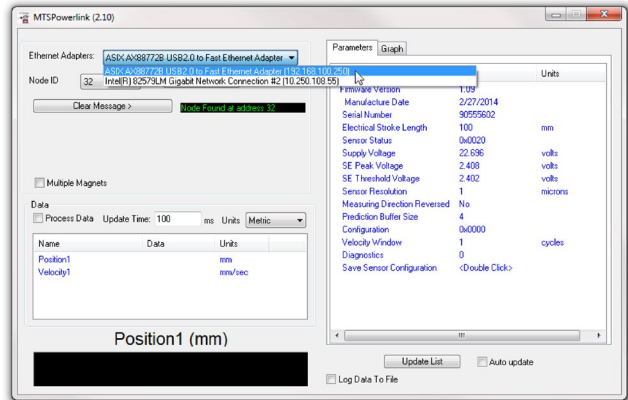

Fig. 51: Choose ethernet adapter
- Start the MTS Powerlink software (download at www.mtssensors.com). Choose the correct ethernet adapter from the drop-down menu (Fig. 51).